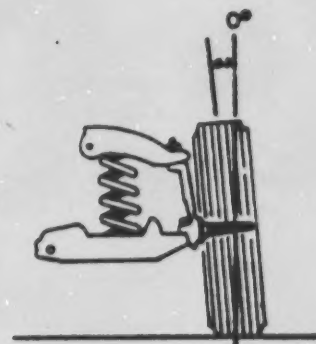

Figure 2
2. Figure 2 shows _____ b. no camber.